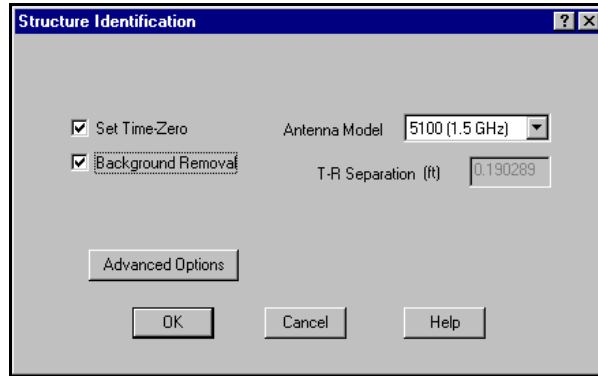

Figure 67: Dialog containing the various settings used to process the data.
- 1 After opening the data file that will be processed, click the Structure Identification icon located on the RADAN tool bar. (It is also possible to run the process by selecting Process > Infrastructure, then selecting Structure Identification). The dialog shown in Figure 67 will appear. Each item in the dialog is described in detail below.